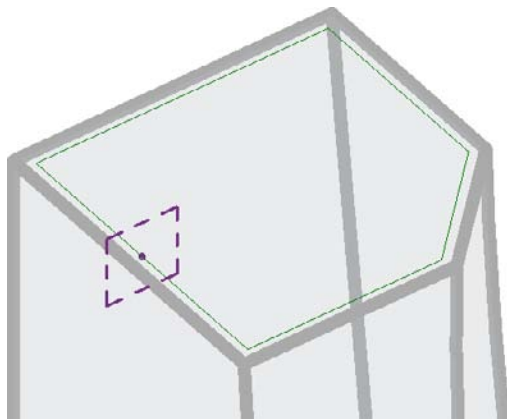
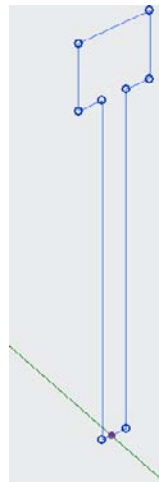

Figure 7.35
Figure 7.36
3. Click the default 3D view on the QAT, and adjust your point of view close to what is shown in Figure 7.35. Select Set from the Work Plane panel, and hover over the reference point. Press Tab, if necessary, until the reference plane that is perpendicular to the reference line highlights, and then left pick. Use the Model Line tool to create a cross section shape similar to the shape shown in Figure 7.36. The shape is roughly 3'-0" tall.